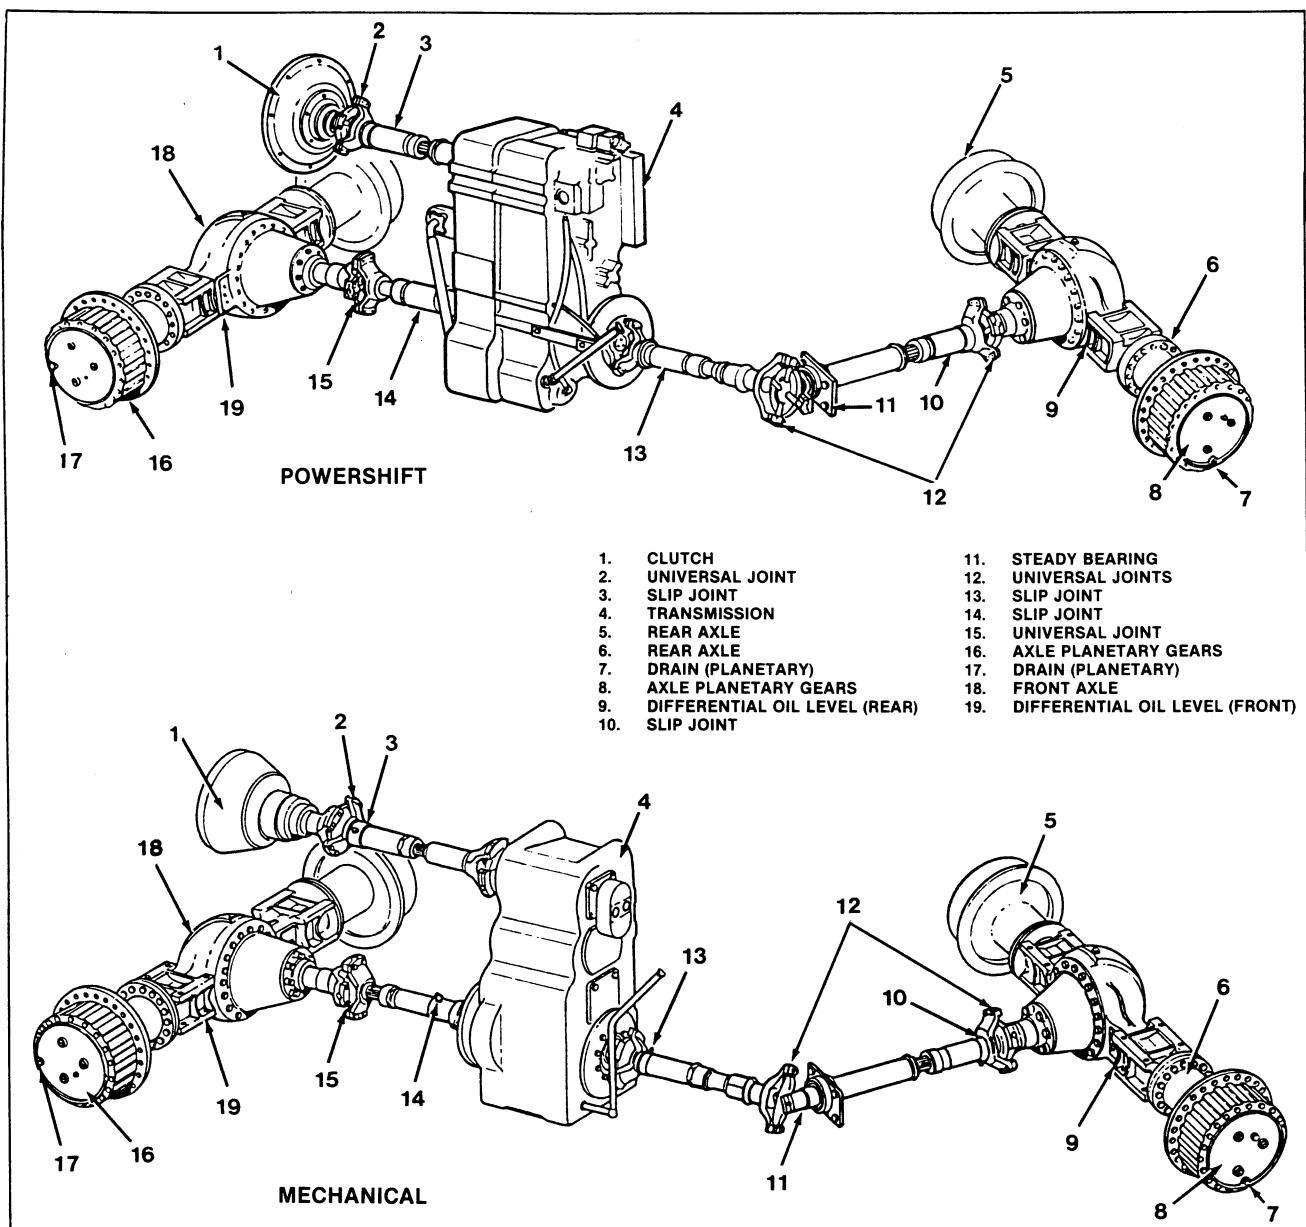

FIGURE 1-1: Driveline Lubrication Points
5. See Figure 1-1, 1-2 or 1-3 for service point locations.
Service intervals recommended in this manual are based on operation under average conditions. Service the tractor more frequently when operating tractor in conditions of severe heat, cold, dust or humidity. Table 1-2 lists the points and frequency of lubrication. Refer to Table 1-3 for the lubricant brands meeting the required specifications. Figures 1-1 and 1-2 show the tractor lubrication points.